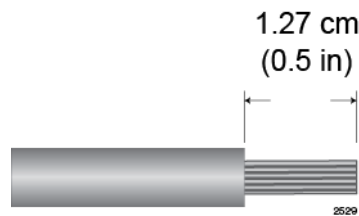

Figure 132. Stripping the Power Wires
1. Prepare adequate lengths of two stranded 8 AWG power wires by stripping them as shown in Figure 132.